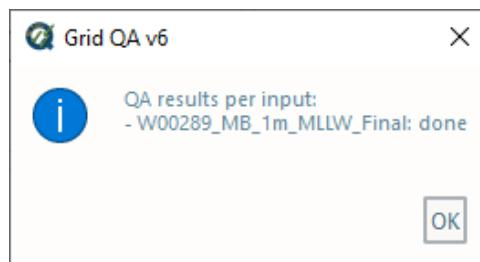

Fig. 2.25: The output message at the end of **Grid QA v5** execution.
- After computing, the output window opens automatically, and the results are shown (Fig. 2.25).